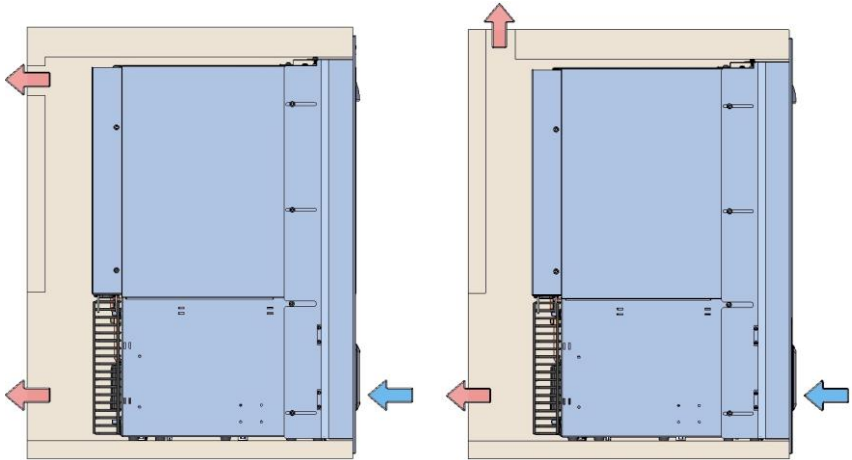

Figure 1a - Rear opening position and ventilation direction
The recess must respect the minimum distances between the appliance and the surrounding structure and have adequate ventilation openings communicating directly in the free environment of the room, to obtain the correct air circulation through forced ventilation, as shown in fig. 1a,1b,1c e 1d.
- In the lower rear part at the motor protection grille, with a size not less than 250mm (for the height) and for the size of the refrigerator (for the width); in the upper rear/top not less than 50mm (for the height) and for the size of the refrigerator (for the width), see fig.1a.
structure must not be less than 75mm. (fig. 1a).